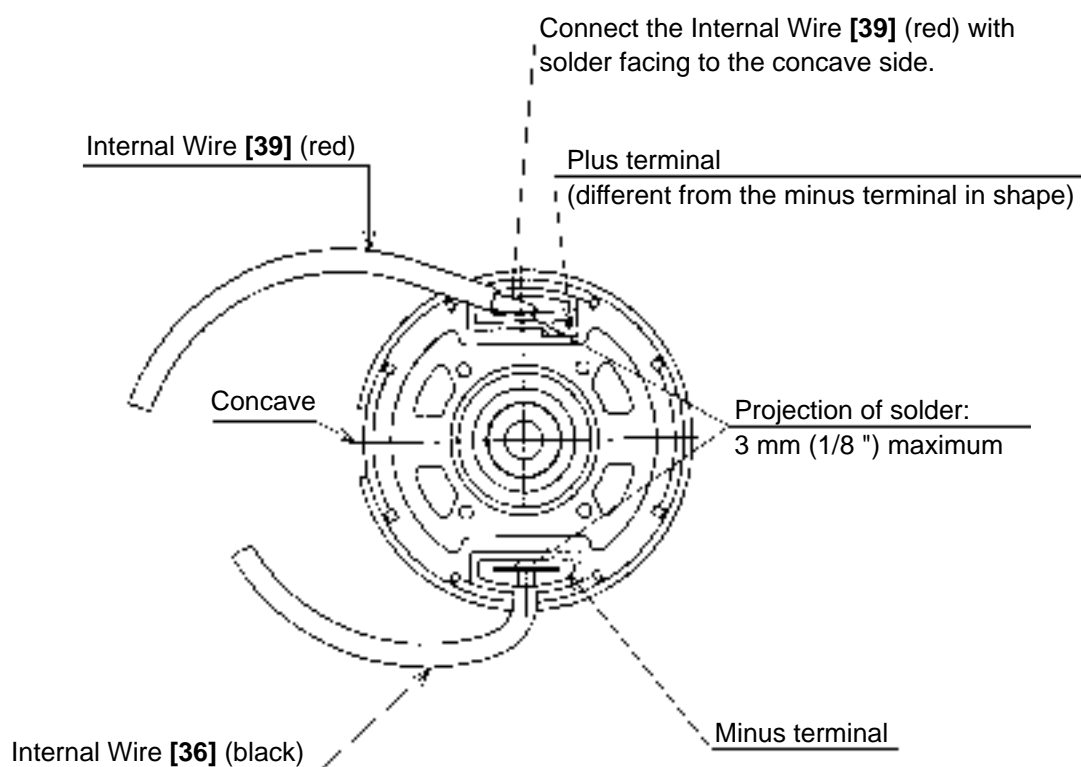

Fig. 9
- (b) Connect the Internal Wire [39] (red) to the plus terminal of the motor and the Internal Wire [36] (black) to the minus terminal of the motor with solder. Refer to Fig. 9 for the plus and the minus terminals of the motor.